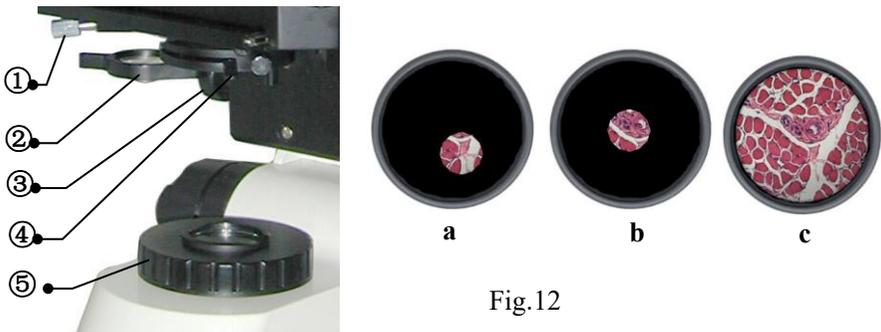

Fig.12
**Centering Abbe condenser:** Turn 10X objective into optical path, turn down the field diaphragm ⑤ of collector to minimum. Adjust the substage adjustment knob ③ to make the image of field diaphragm clear. If the center of field diaphragm offset the center of eyepieces field of view, like the fig.12-a, you can adjust the Abbe condenser centering screws ① to make collector field diaphragm center and eyepieces center coincide, like the fig.12-b. After adjusting above steps, you can open the field diaphragm for your need, like fig.12-c. when use the microscope, you should adjust the aperture of iris diaphragm ④ according to the numerical aperture of objective. Using 5X or lower magnification objective, you should turn the accessional condenser ② into optical path to make the illumination of field uniformity. See fig.12.